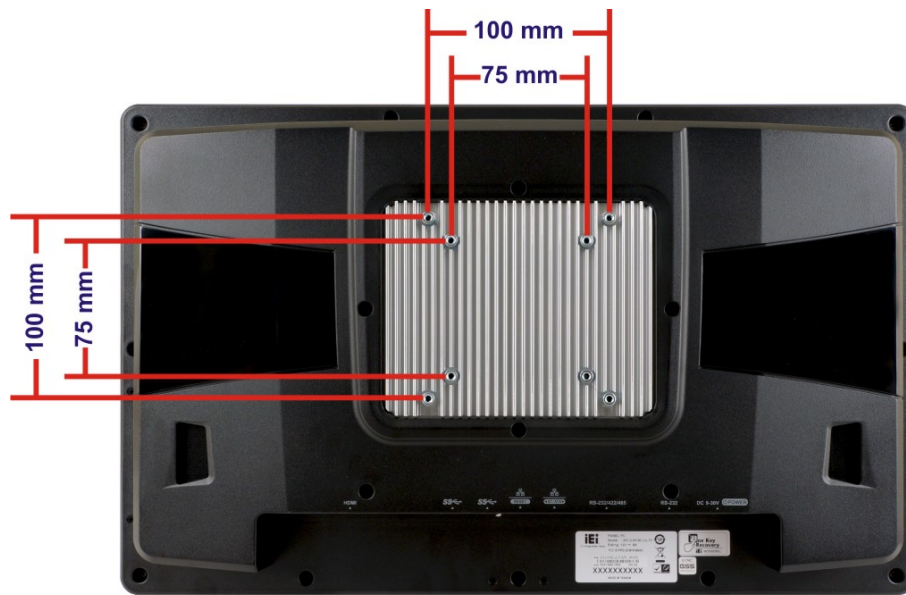

Figure 3-35: Arm Mounting Retention Screw Holes
Step 3: Align the retention screw holes on the mounting arm interface with those in the flat bezel panel PC (**Figure 3-35**).